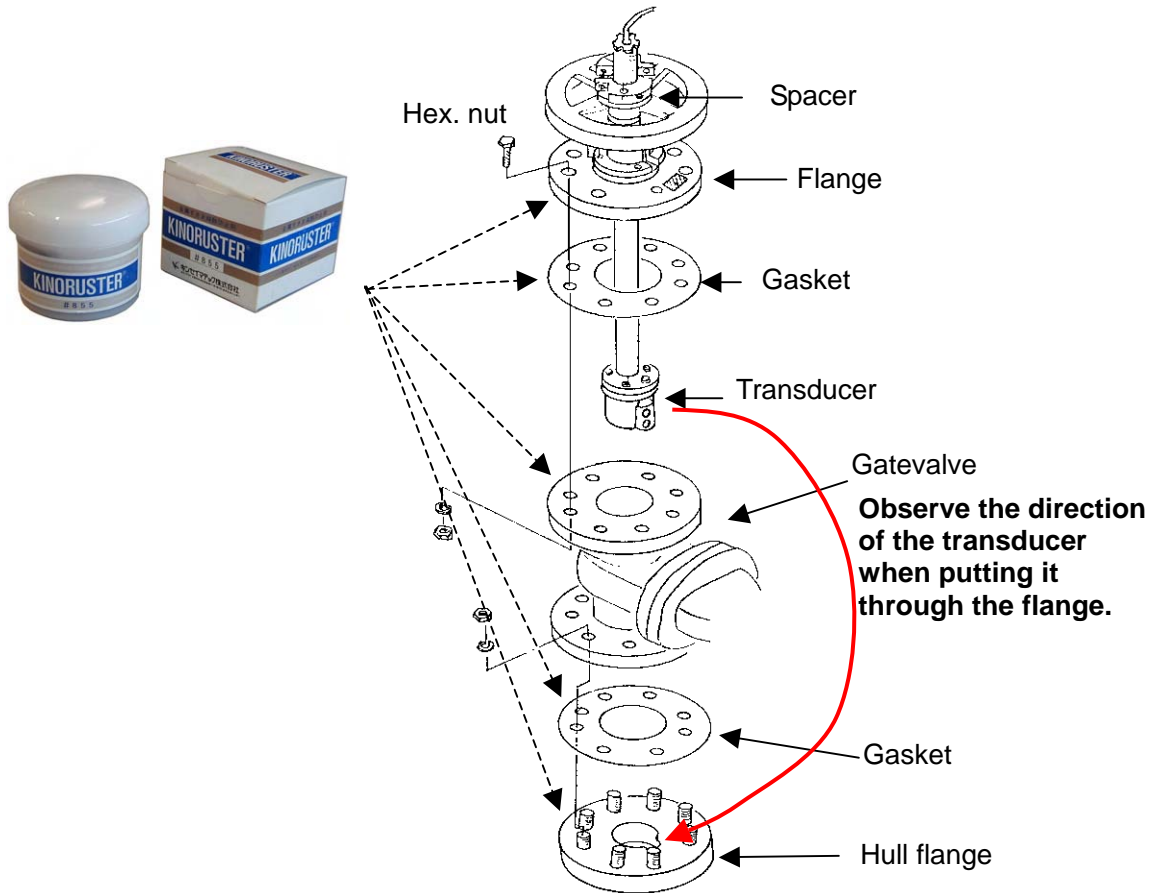

Fig. 12.4.3 Gate-valve DS-782, enlarged
2. Apply KINORUSTER or alternative anticorrosive sealant to the flanges and the gasket as shown in Fig. 12.4.3. Use the sealant for both side of the gasket.